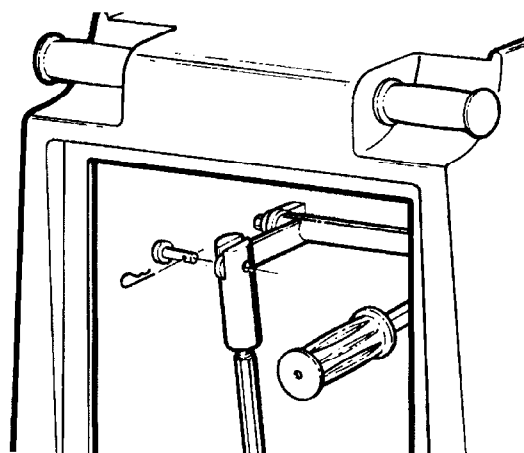

FIG. 1.
3. Connect lift lever to tension rod. (*Figure 1*)